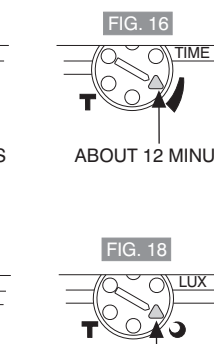

FIG. 16
- The (**TIME**) adjustment controls how long the lamp will stay on after motion has been detected. Adjust the **TIME** control knob clockwise to increase (up to about 12 minutes - FIG. 16) how long the light stays on or anti-clockwise to decrease (down to about 10 seconds - FIG. 15) the time delay.